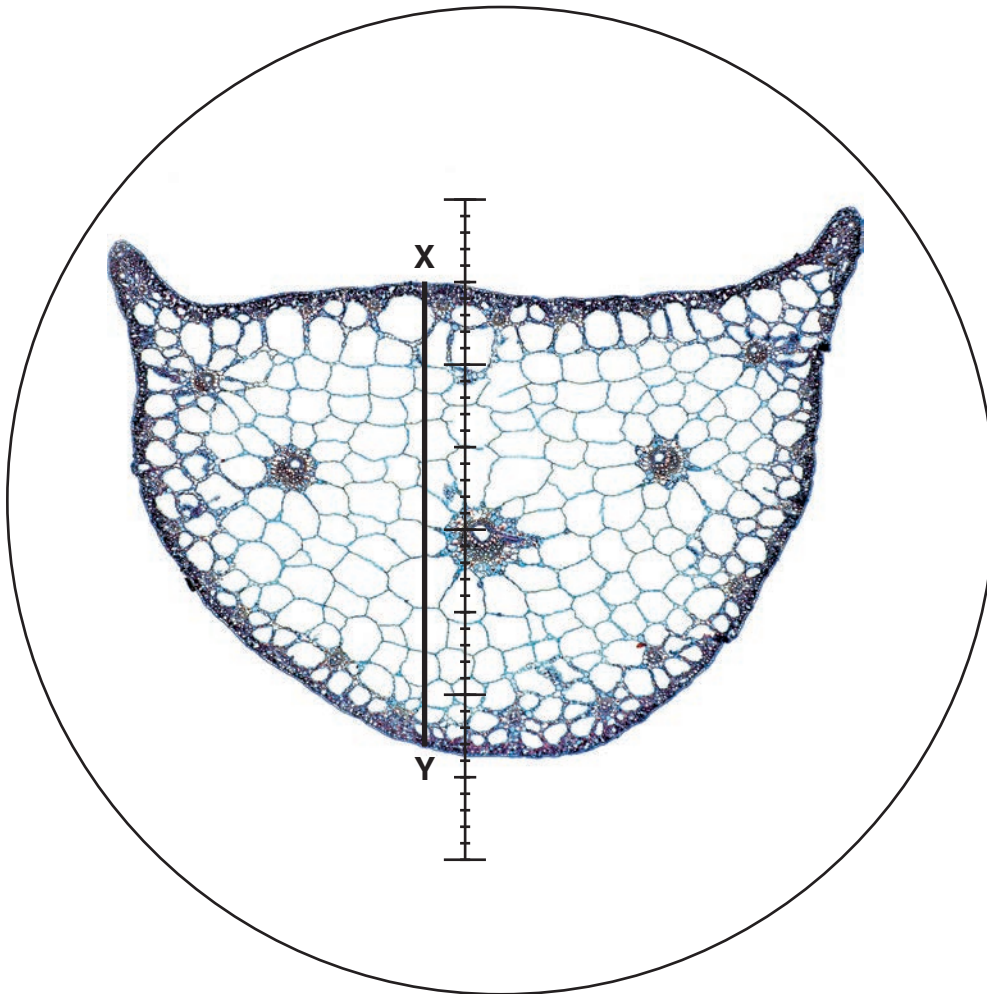

Fig. 2.2
- (b) Fig. 2.2 is a photomicrograph of a stained transverse section through part of the stem of a different plant species.
Fig. 2.2 shows a photomicrograph taken using the same microscope with the same lenses as the student.
Use the calibration of the eyepiece graticule division and Fig. 2.2 to calculate the actual width of the stem, shown by line **X–Y**.